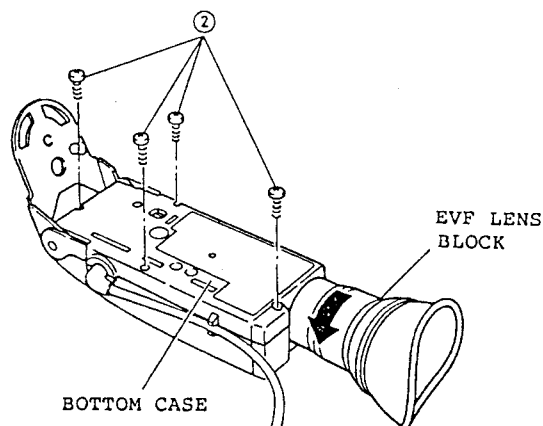

Fig. 2-111
1. Turn the EVF lens block in the direction of the arrow to pull it out from the EVF. (See Fig. 2-111)
2. Remove four (4) screws holding the bottom case.
1. Remove the bottom case. (See Fig. 2-111)
(See Fig. 2-111)